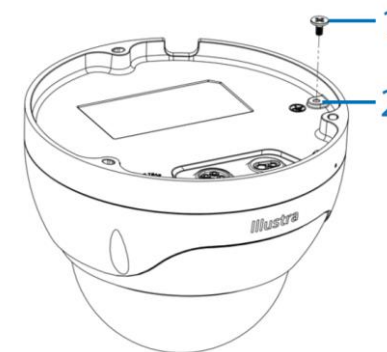

Figure 4
5. Remove the M3x6mm 'grounding' screw (1) (Figure 4) and then place the 'grounding' cable connection onto part 2 in Figure 4.
- Remove the M3x6mm 'grounding' screw (1) (Figure 4) and then place the 'grounding' cable connection onto part 2 in Figure 4.
- Hold the camera base up to the surface and align the three ST4x30mm screws (3) (Figure 4) on the camera base (2) (Figure 4) with the three holes on the surface and then securely attach the camera base to the surface.
- Hold the camera top cover (5) (Figure 4) up to the camera base (2) (Figure 4) and align the three M4x8mm Torx screws on the camera top cover with the three holes on the camera base and securely attach the camera top cover to the camera base.